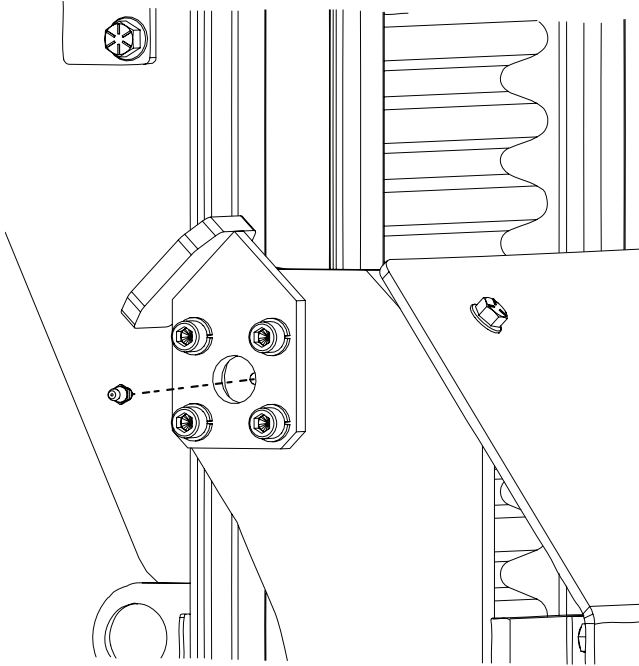

Figure 9
19. Reinstall the grease zerk in the roller using a 1/4" drive set with a 5/16" socket wrench (Figure 9). The grease zerk in the new roller does not require greasing at this time. Grease after the first 10 hours of use and then according to the preventive maintenance schedule located in the operator's or service manuals (daily greasing).